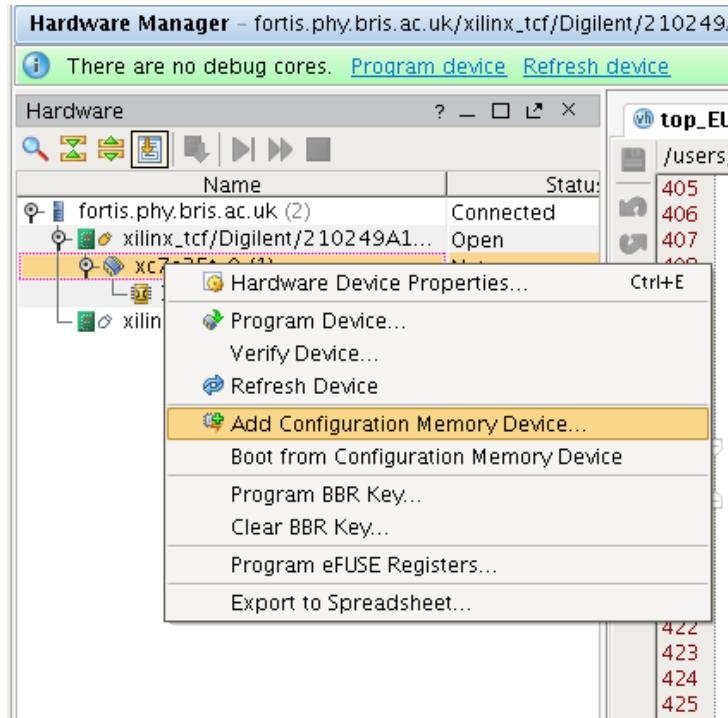
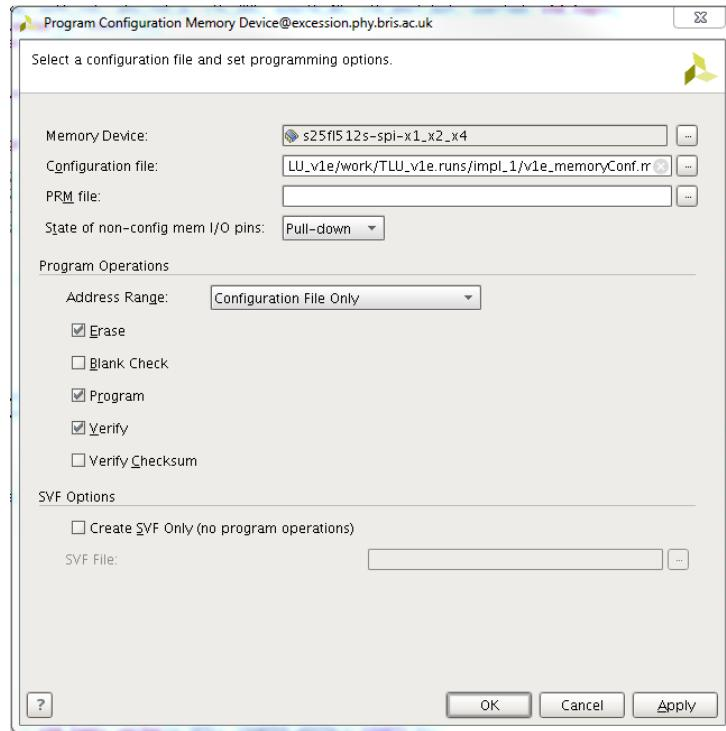

Figure 1.4: Program interface.
Figure 1.5: EEPROM interface. The options shown in the picture are suitable to configure the device correctly.
4. Right click on the **FPGA** (typically xc7...) and select **Program device** (see figure 1.4)
The procedure to write a permanent program in the **EEPROM** is very similar to the one followed to write a bit stream file, with the exception that the user should select **Add configuration memory device** in the options, as shown in figure 1.4. This will open a new window, shown in figure 1.5, from which it is possible to indicate the file to use (with extension .mcr). Make sure that the options are set as shown in figure 1.5.